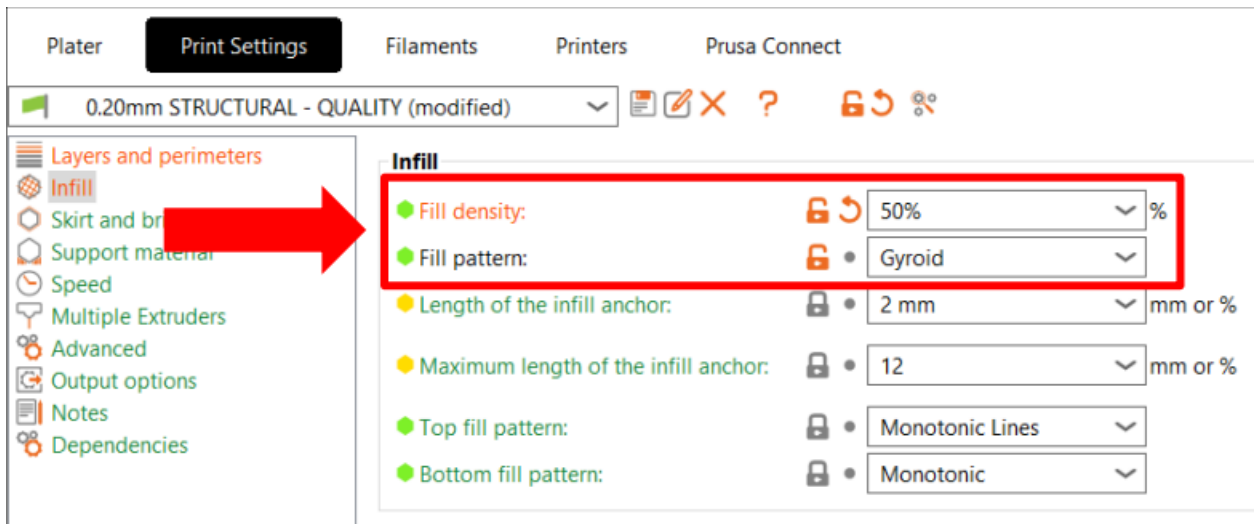

Figure 3. Adjusted Infill Settings.
5.) Change the fill density to 50% and the fill pattern to Gyroid (see red box in Figure 3).